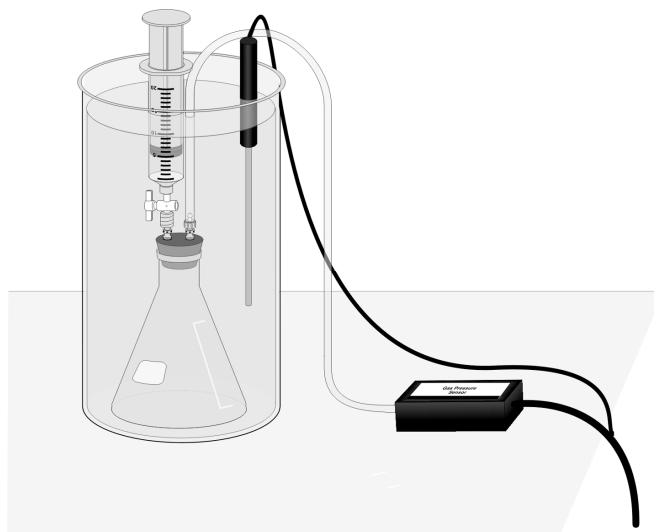

Figure 3
1. Assemble the apparatus shown in Figure 3. Start with an ice-water bath. Set the piston close to the 0 mL mark on the syringe, and make the connection to the pressure sensor last, so that the pressure in the system is close to atmospheric. This will allow the gas volume to increase in warmer water baths. Make sure the rubber stopper and flask neck are dry, then twist and push hard on the rubber stopper to ensure a tight fit. Be sure the water level is at least as high as the air confined in the syringe. You will need to hold the buoyant flask and syringe down with a stand and clamp (not shown in Figure 3).
- Prepare the apparatus as shown in Figure 3 above, except that the water bath will not be needed since the data will be collected at room temperature, and the bottle is used in place of the Erlenmeyer flask.